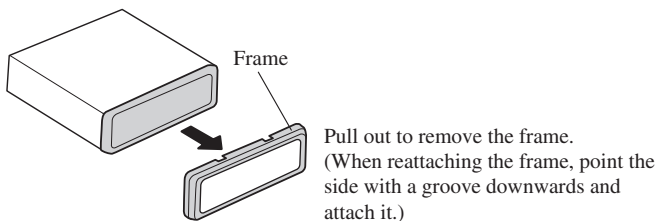

Fig. 13
1. Remove the frame. (Fig. 13)